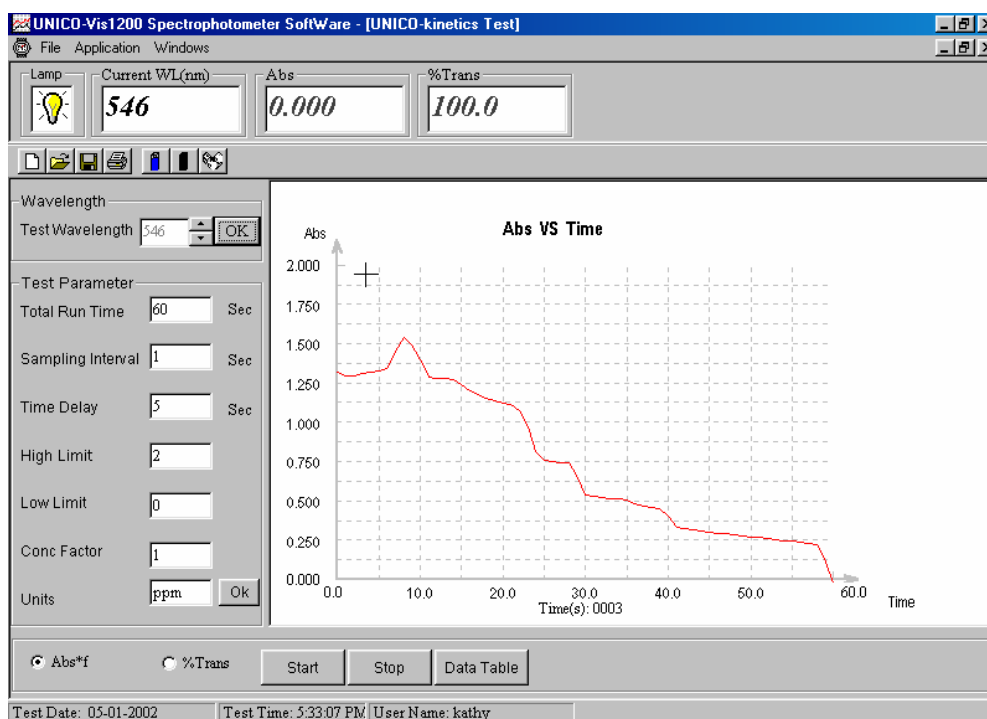

Figure-36 Sample Test Results of Kinetics
- Step 9: Place your sample in the Sample Compartment and click the **Start** Button once all the **Test Parameters** have been set and you are ready to start your measurement (Figure-36).